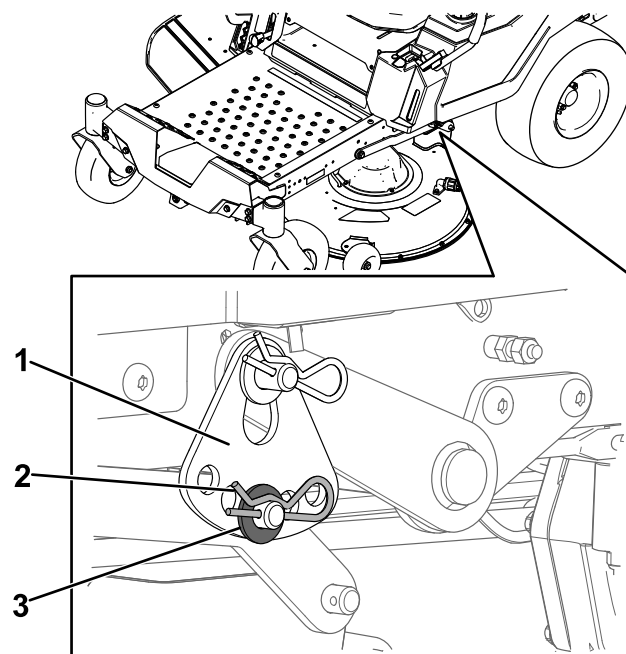

Figure 63
6. Remove the hairpin cotter and washer from the lower lift-arm pin (Figure 63).